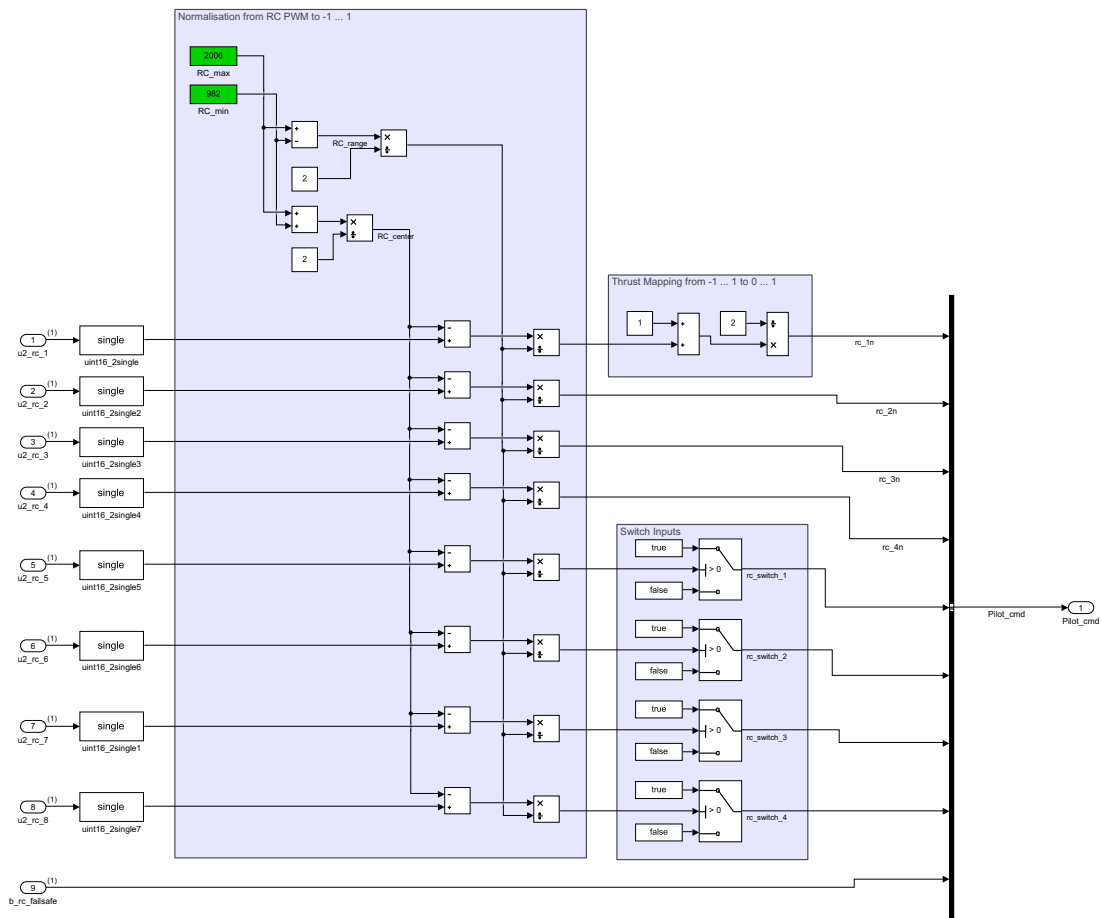

Figure 19: Subsystem RC\_Input\_Normalisation.
**RC\_Input\_Normalisation Subsystem:** The first subsystem (see Fig. 19) normalises the PWM signal inputs from the remote control. The remote control channels must be allocated manually in the remote control menu (see Sec. 1.2). Here, the first 4 channels of the remote control are configured to control the actuators in the following order: